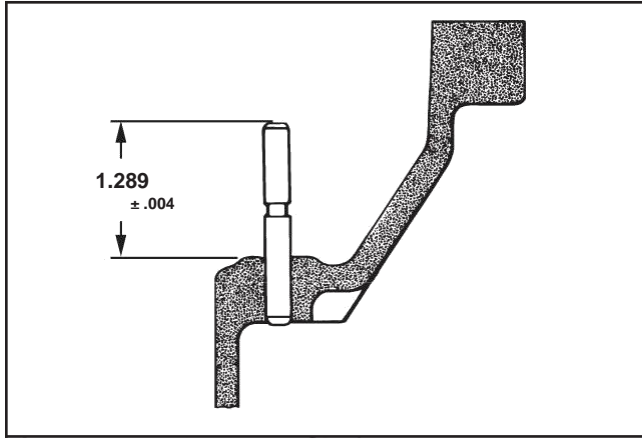

Figure 10-13. Governor Shaft.
1. Install new pin by pressing or lightly tapping into crankcase. It must be installed so that it protrudes 1.289 plus or minus .004 in. above the crankcase boss. See Figure 10-13.